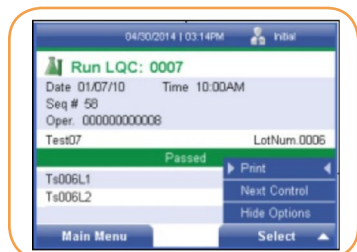

FIGURE 106
1. To print control results, press the right soft key to select Options. The *Option* menu will be displayed (Figure 106).